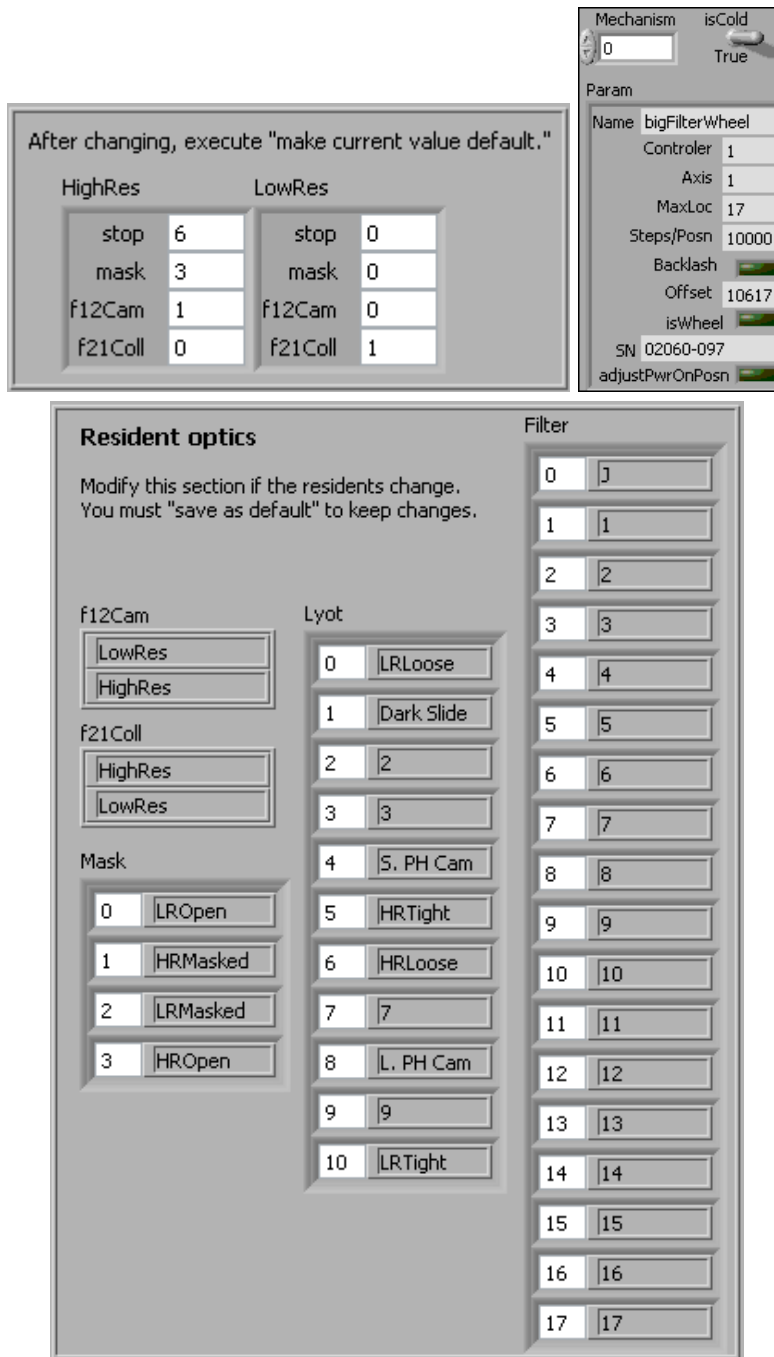

Figure 18: VIs, defaultOptic (top left), mechanismParameter (top right), and SpartanToWheel-Names (bottom), for configuring the instrument.
**defaultOptic.vi** (Figure 18) contains the default mechanism positions for the high-res and wide-field observing channels.
**mechanismParameter.vi** (Figure 18) contains the operating information for the mechanism, which are the controller and axis number to address the mechanism, the maximum position (counting from 0), the number of steps per position, whether to
**SpartanToWheelNames.vi** (Figure 18) contains the correspondence between the mechanism positions and names of the optics.